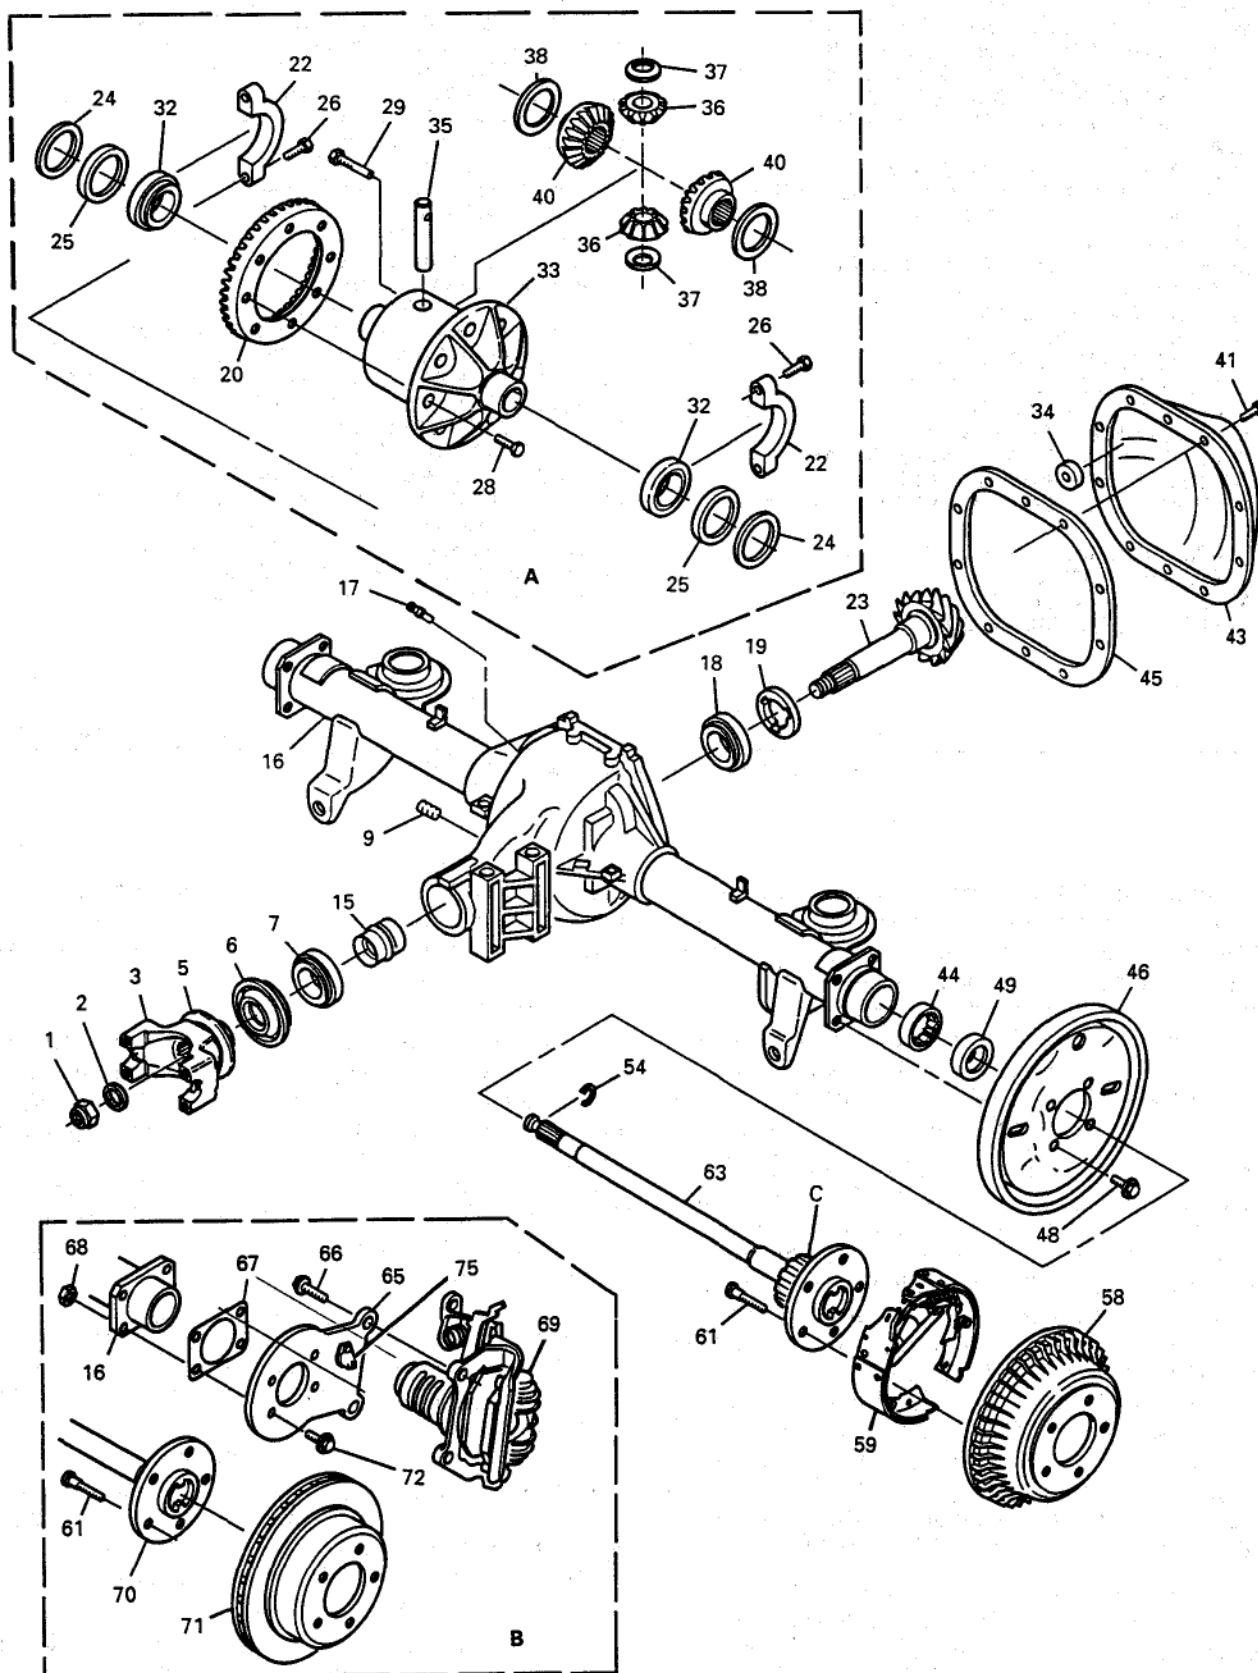

Figure 3 – Rear Axle Assembly Equipped With Traction Control (Acceleration Slip Regulation)
The case (33) is one piece and is supported in the housing assembly (16) by two tapered roller side bearing assemblies (32). These are preloaded by inserting shims (24) between the bearing assemblies (32) and the housing assembly (16). The case (33) is positioned for proper differential ring gear-to-differential drive pinion gear backlash by varying the shim thickness from side to side. The ring gear (20) is bolted to the case (33). A speed sensor reluctor wheel (39) is press fit to the case (33). A wheel speed sensor assembly (75) is mounted to the housing assembly (16) (Figure 1) or the mounting plate (65) (Figure 3). This sensor provides wheel speed information to the electronic brake control module (EBCM) assembly. For further information, refer to SECTION 5E1.